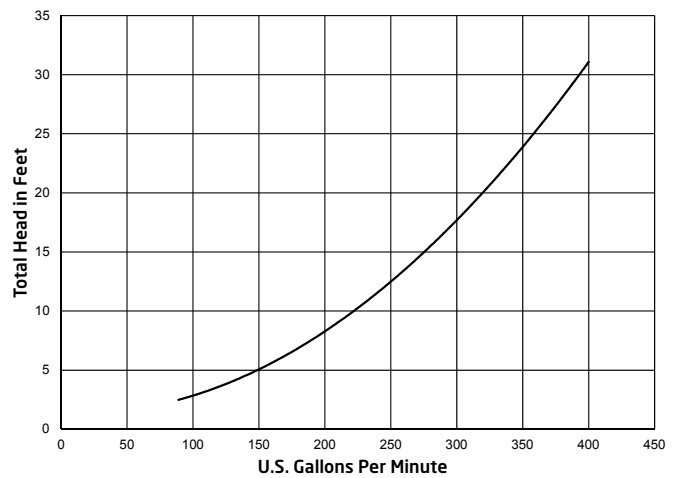

Figure 2
- For optimal performance, use 4" plumbing when the total distance between the pump and jet housing is 30 ft or less. The plumbing should be as direct and free from turns or bends as possible because **elbows and other fittings can create large friction losses and reduce the performance of the system.** **The shortest length of pipe with the minimum number of fittings possible should be used to avoid any significant friction loss due to the pipe and fittings.** **NOTE:** Refer to Figure 2 for the BaduJet super-sport head loss curve.
- A maximum of seven (7) 90° 4" elbows may be used with 30 ft of horizontal 4" pipe for the suction line and 30 ft of horizontal 4" pipe for the discharge line without negatively affecting the performance of the system.